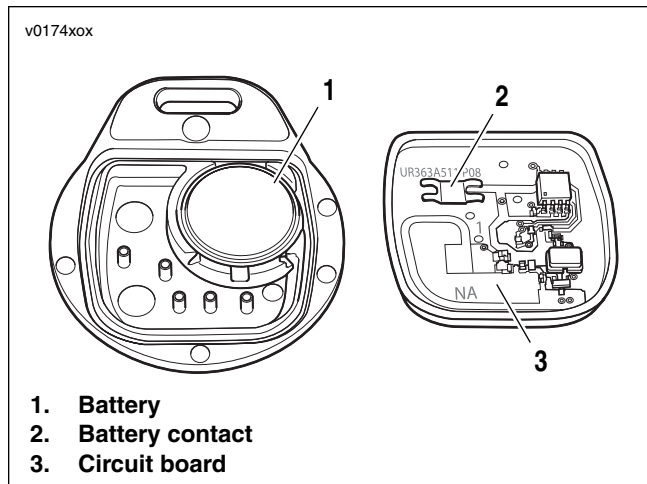

Figure 3-41. Open Key Fob Case
2. See Figure 3-41. Replace battery (1).